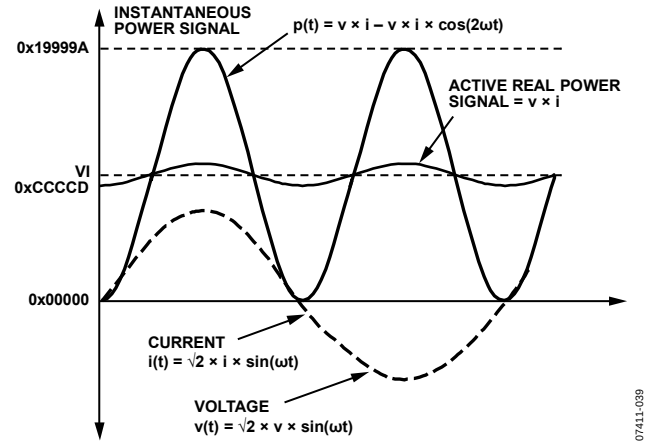

Figure 59. Active Power Calculation
Note that the active power is equal to the dc component of the instantaneous power signal $p(t)$ in Equation 9, that is, VI . This is the relationship used to calculate active power in the ADE5166/ADE5169. The instantaneous power signal $p(t)$ is generated by multiplying the current and voltage signals. The dc component of the instantaneous power signal is then extracted by LPF2 (low-pass filter) to obtain the active power information (see Figure 59).
The ADE5166/ADE5169 also incorporate an active power offset register (WATTOS[15:0], Address 0x20). It is a signed, twos complement, 16-bit register that can be used to remove offsets in the active power calculation (see Figure 59). An offset can exist in the power calculation due to crosstalk between channels on the PCB or in the IC itself. The offset calibration allows the contents of the active power register to be maintained at 0 when no power is being consumed.
As mentioned in the Active Energy Calculation section, the discrete time sample period (T) for the accumulation register is 1.22 μ s (5/MCLK). With full-scale sinusoidal signals on the analog inputs and the WGAIN register (Address 0x1D) set to 0x000, the average word value from each LPF2 is 0xCCCCD (see Figure 59). The maximum positive value that can be stored in the internal 49-bit register is 2^{48} (or 0xFFFF,FFF,FFF) before it overflows. The integration time under these conditions when WDIV = 0 is calculated in the following equation: